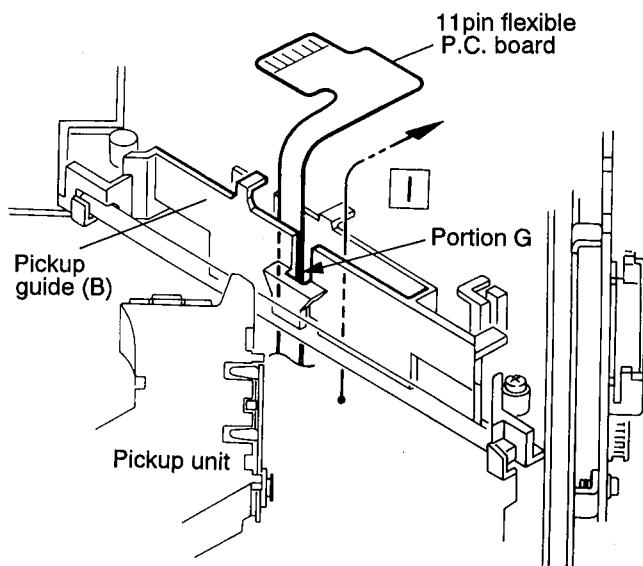

Fig. 4-24 (Back of CD mechanism)
1. In advance, pass the 11 pin flexible P.C. board toward the lower side of the pickup guide (B) (See Figs. 4-24 and 4-25).
(See Figs. 4-24 ~ 4-31)
1. After turning the CD mechanism over, the 11 pin flexible P.C. board which has been passed in advance should be inserted to the hole at the portion G on the pickup guide (Step 1) (See Fig. 4-24).
2. After passing the 11 pin flexible P.C. board down to the pawl at the portion H on the pickup guide as shown in Figs. 4-24 ~ 4-26, set the flexible P.C. board according to the order from Step 2 → Step 3 → Step 4.